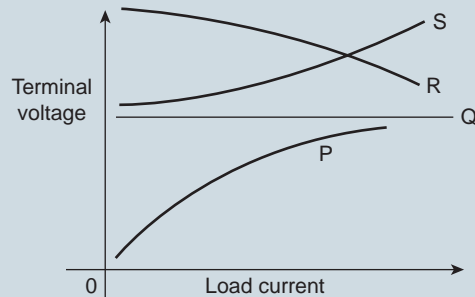

Figure 25.31
23. From Fig. 25.31, the expected characteristic for a shunt-wound d.c. generator is: